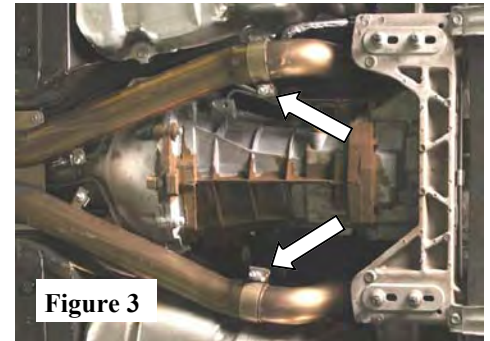

Figure 3
1. Place a clamp over each expanded ends of each Over-Axle Pipe. Starting with the R/H Muffler Assembly, and insert inlet into R/H Over-Axle Pipe and carefully insert hangars into runner isolators. Repeat step for the L/H Muffler Assembly. (See Fig. 3 & 4)